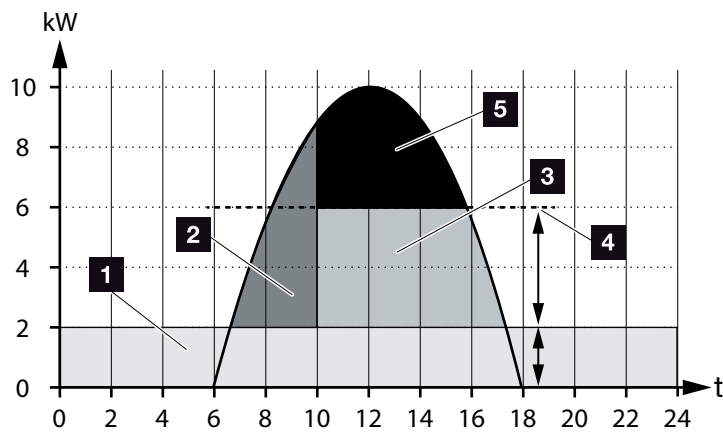

Fig. 56: Control without smart battery control
**Fig. 56, It. 4** shows how without smart battery control, especially when there is high solar irradiation, the generated PV energy remains unused e.g. in the case of limiting to approx. 50% because of the KFW ruling.